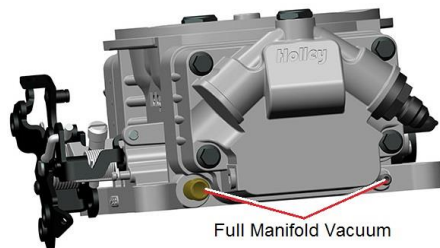

Figure 3
- Connect the vacuum lines that were previously disconnected. **Figures 3 & 4** show the function of the ports in the TERMINATOR STEALTH™ throttle body.